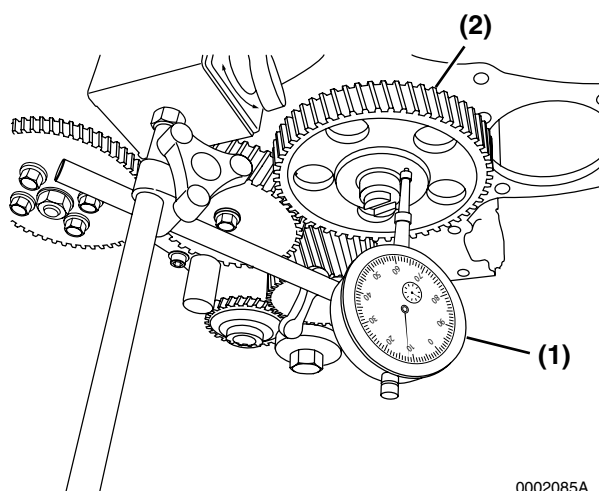

Figure 6-92
- **Method A:** Install a dial indicator (**Figure 6-92, (1)**) on the cylinder block. Move the camshaft (**Figure 6-92, (2)**) back and forth to measure the end play. Record the measurement. See *Camshaft* on page 6-10 for the service limit.